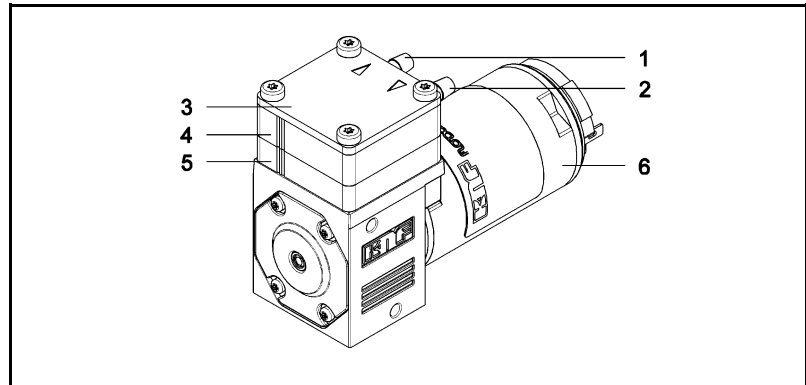

Fig. 1 Diaphragm liquid pump
* The pump head (Fig. 1) comprises a connecting plate and an intermediate plate